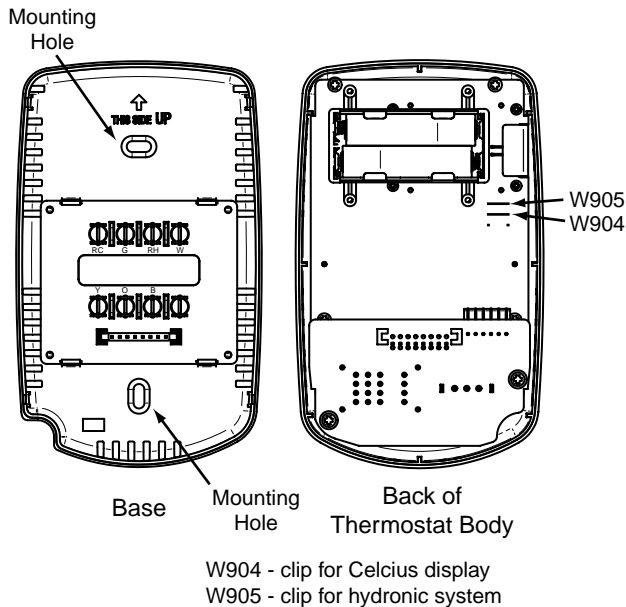

Figure 1. Thermostat
5. Fasten base loosely to wall, as shown in fig. 1, using two mounting screws. Adjust until level, and then tighten screws. (Leveling is for appearance only and will not affect thermostat operation.) If you are using existing mounting holes, or if holes drilled are too large and do not allow you to tighten base snugly, use plastic screw anchors to secure subbase.
If "LO BATTERY" appears on the display, the batteries are low and should be replaced with fresh "AAA" Energizer® alkaline batteries. The batteries are located on the back of the thermostat body (see fig. 1).
- **°F/°C CONVERTIBILITY**—The factory default setting is Fahrenheit. Clipping W904 jumper on the circuit board (see fig. 1) will alter this feature to Celsius temperature setting.